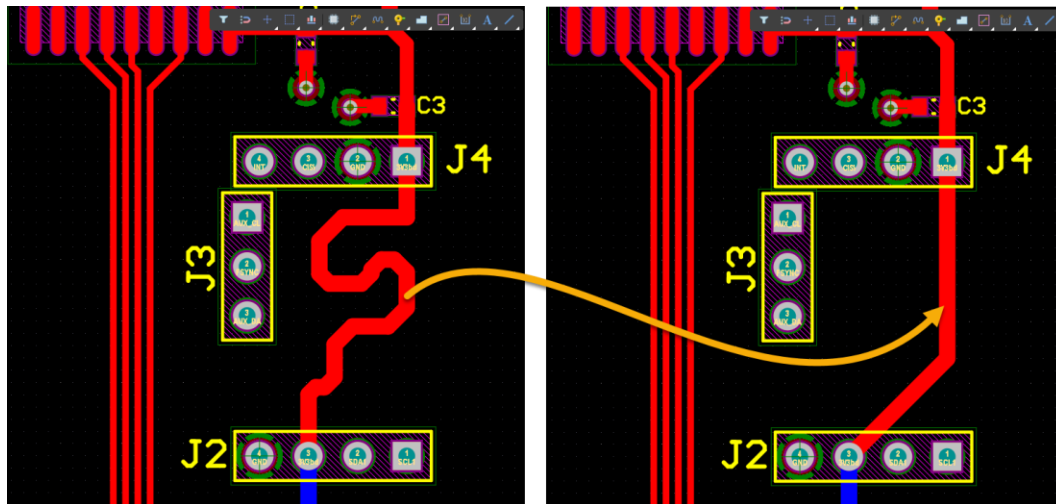

Figure 17. Gloss Tracks, before (left) and after (right)
- Run the *Track Glossing* command by going to **Route » Gloss Selected** or **CTRL+ALT+G**. See Figure 17 as an example.